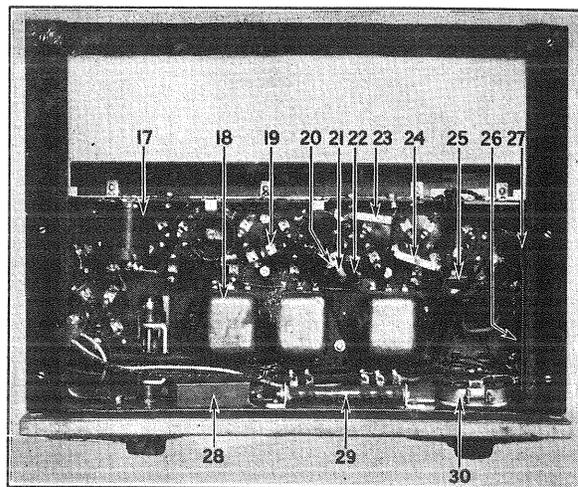

Fig. 3—Bottom of Radiola
- F. Open center tap resistor 27, Fig. 3.